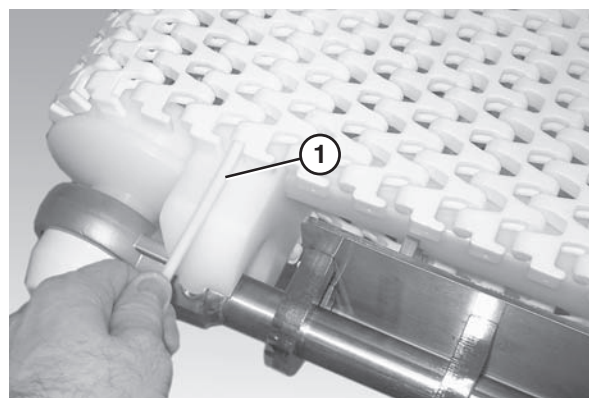

Figure 39
4. Insert the belt rod (Figure 39, item 1).